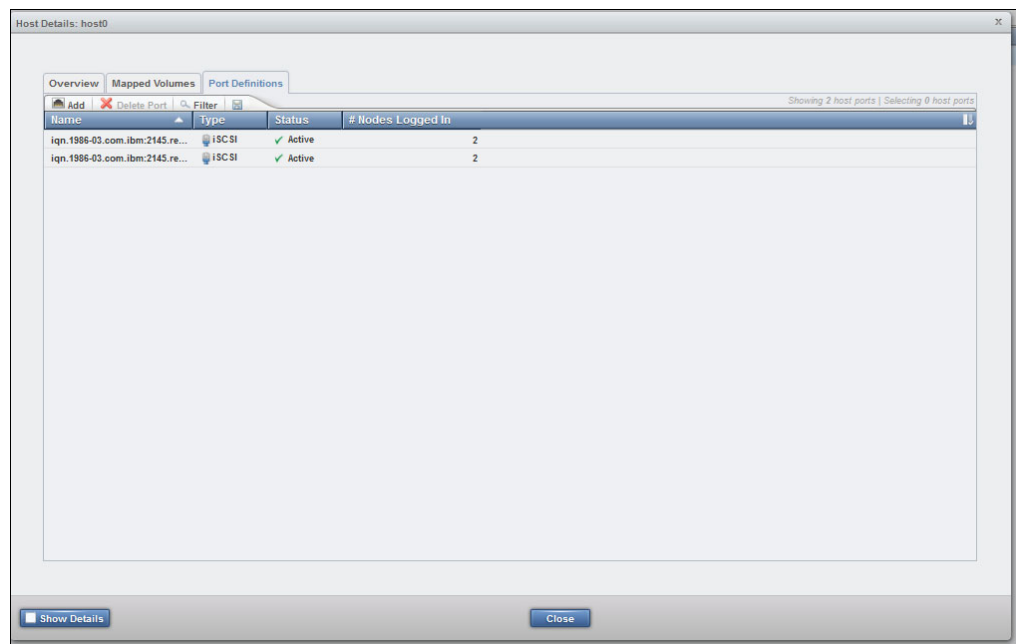

Figure 15-5 IQN list of a host object
- d. Go to the Port Definitions tab, as shown in Figure 15-5.